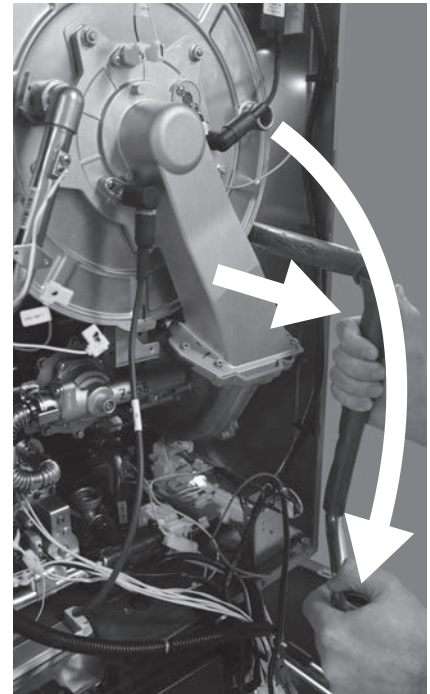
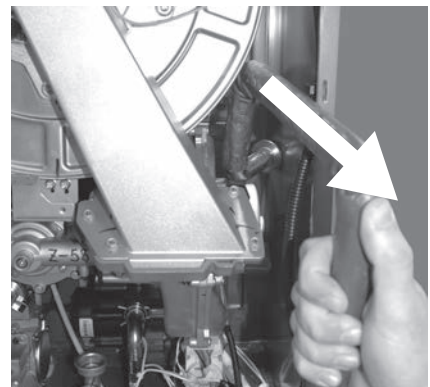

Figure 190 - Lift & pull HEX inlet tube toward you
Figure 191 - Remove HEX inlet tube
- 18** Disconnect HEX inlet tube from heat exchanger and outlet tee. To remove HEX inlet tube from water heater, lift upward and pull top of tube toward you as shown in Figure 190. Guide HEX inlet tube around the right side of heat exchanger and above fan assembly as shown in Figure 191. Dispose of HEX inlet tube properly.